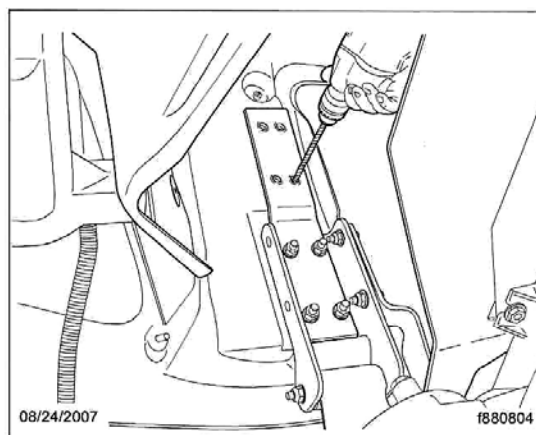

Fig. 4, Drilling Holes through Hood Reinforcement and Front Skin
8. Using a saw drill bit, drill 3/8 inch (9.5 mm) holes through the hood reinforcement and front skin, using the four open holes in bracket 17-17603-000 as a template. Be sure the holes are aligned with the bracket. See **Fig. 4**.